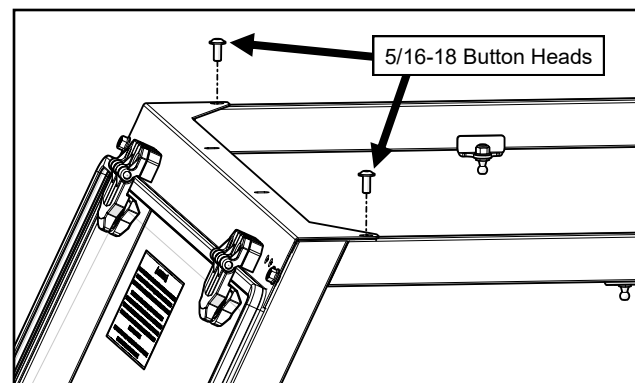

Fig. 2.4 (Windshield Support Fasteners)
- 2.4** Use caution to avoid damaging the factory installed threaded inserts. Begin the thread engagement by hand to avoid or correct potential cross threading. Fasten the top flange of the windshield support to the side frame as shown in Figure 2.4.